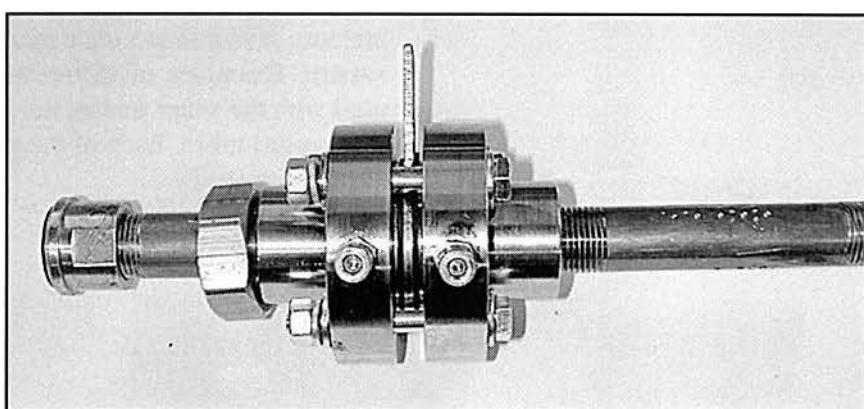

Figure 27. Orifice Plate
- **Orifice Plate** - The orifice plate, as shown in figure 27, is another type of differential pressure flow sensor and is used with the optional smart transmitter.